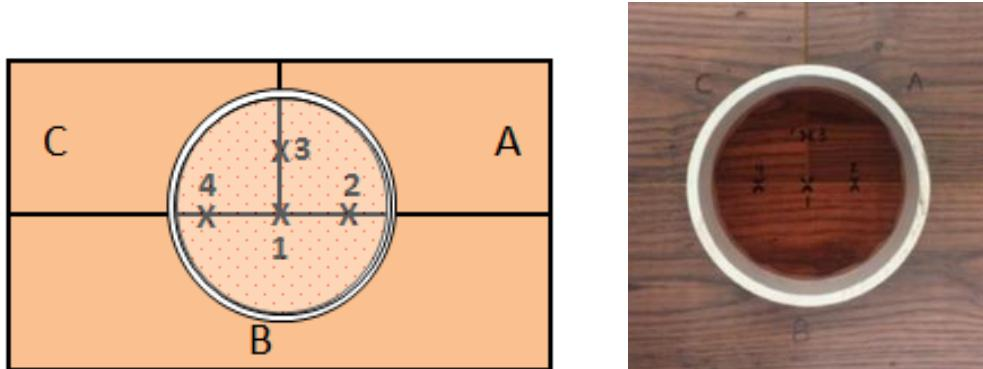

Figure 8 – Assembled Plank Surface Water Exposure Test Set Up
- 11) Using a clean beaker add 100 ml of room-temperature distilled or de-ionized water plus 5 drops of red food color. Stir or swirl beaker until color is uniformly dispersed. Pour the water into the ring sealed to the laminate floor surface. Water level should be approximately 3/8" (9 mm) deep – See Figure 8